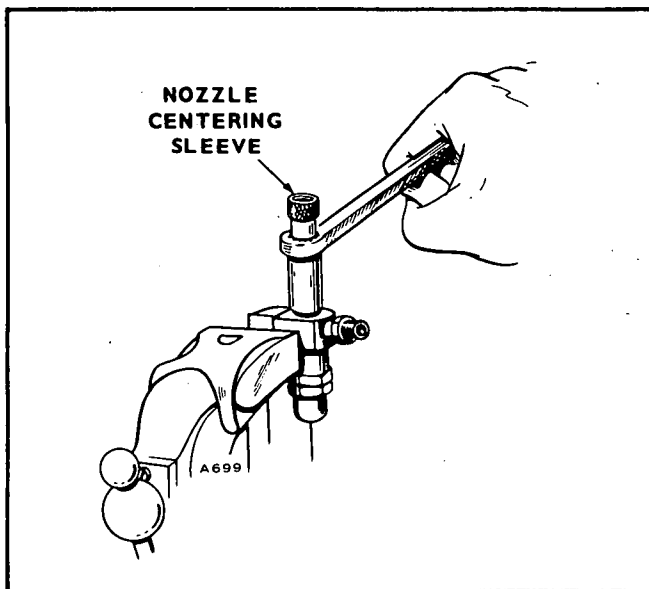

FIGURE 17. TIGHTENING NOZZLE CAP NUT
5. Place the centering sleeve over the nozzle (Figure 17) for initial tightening. Then remove the centering sleeve to prevent it from binding between nozzle and cap nut and tighten the nozzle cap nut to specified torque.